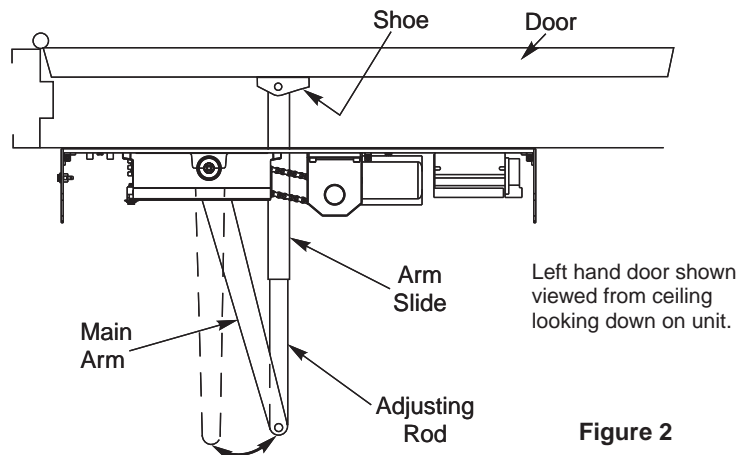

Figure 2
Step 8: **PRELOAD ARM** (See Fig. 2, below): Remove 1/4-20 hex head screw on adjusting rod and insert adjusting rod into arm slide. Reinstall 1/4-20 screw and leave loose. Rotate main arm in direction away from the hinge edge until the adjusting rod and arm slide are perpendicular (at a 90° angle) to the door frame. Tighten the 1/4-20 hex head screw on the adjusting rod to secure arm in this new position.